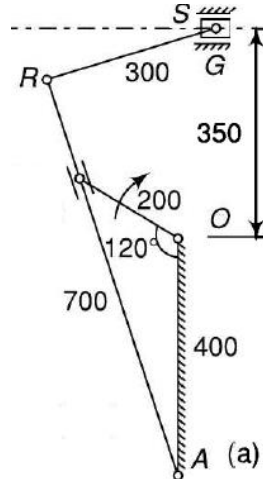

Figure 2
- 4 Figure 2 shows the link mechanism of a quick-return mechanism of the slotted lever type, the various dimensions of which are,  $OA=400\text{mm}$ ,  $OP=200\text{mm}$ ,  $AR=700\text{mm}$ ,  $RS=300\text{mm}$ . For the configuration shown determine the acceleration of the cutting tool at S and the angular acceleration of the link RS. The crank OP rotates at 210 rpm. 20